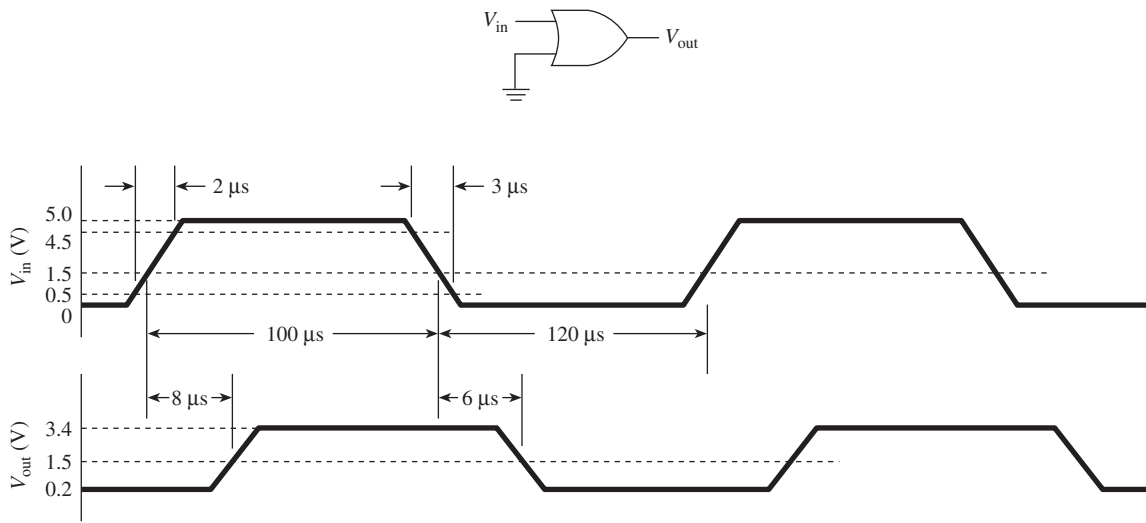

Figure P8
8. The input and output waveforms to an OR gate are given in Figure P8. Determine: